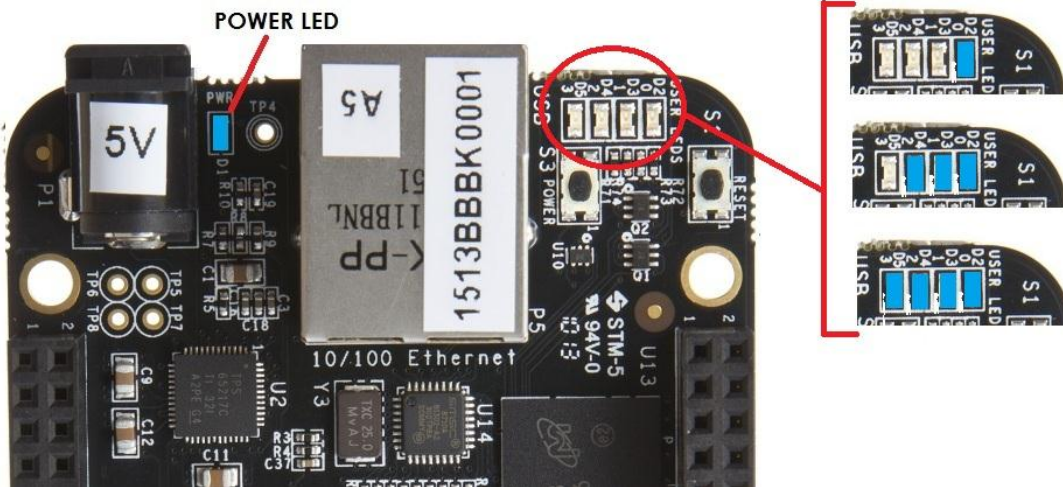

Figure 5. Board Boot Status
4. When the board starts to the booting process started by the process of applying power, the LEDs will come on in sequence as shown in **Figure 5** below. It will take a few seconds for the status LEDs to come on, so be patient. The LEDs will be flashing in an erratic manner as it begins to boot the Linux kernel.